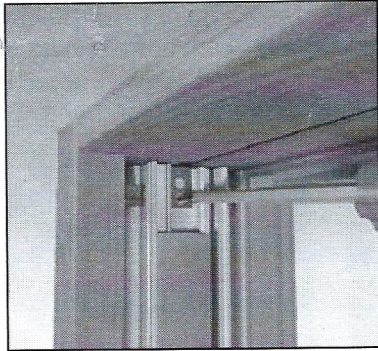

Figure 5
- Remove the #7 x 7/8" Phillips head screw. See figure 5. **Skip this step if product was produced prior to 10/22/2007.**